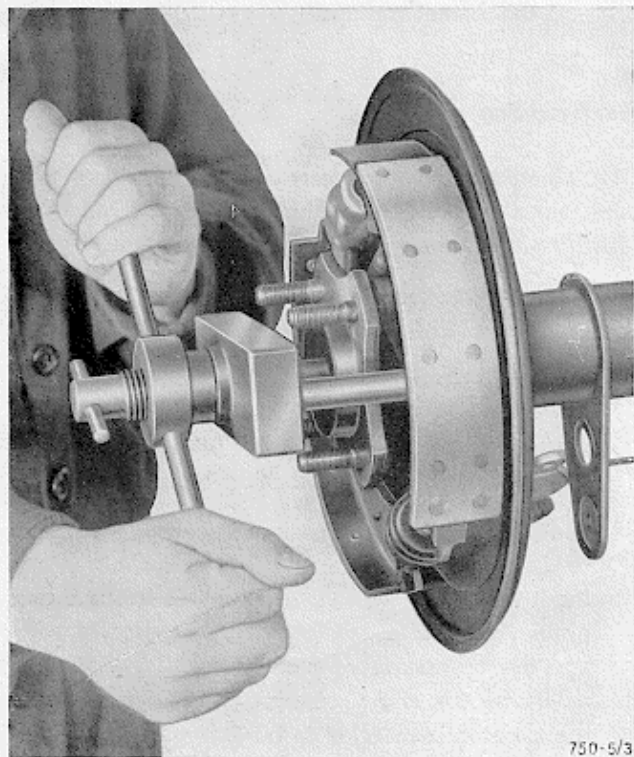

Fig. 3 - Dismantling a rear axle shaft with tool 6121.12.055
- Using the tool No. 6121.12.055, withdraw the rear axle shaft (Fig. 3) with the bearing, the nut and the collar holding the bearing still in place. While withdrawing the shaft from the tube be